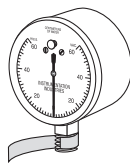

Figure 5
1. Prior to installation, at least two layers of teflon tape MUST be applied to threads. (Figure 5)